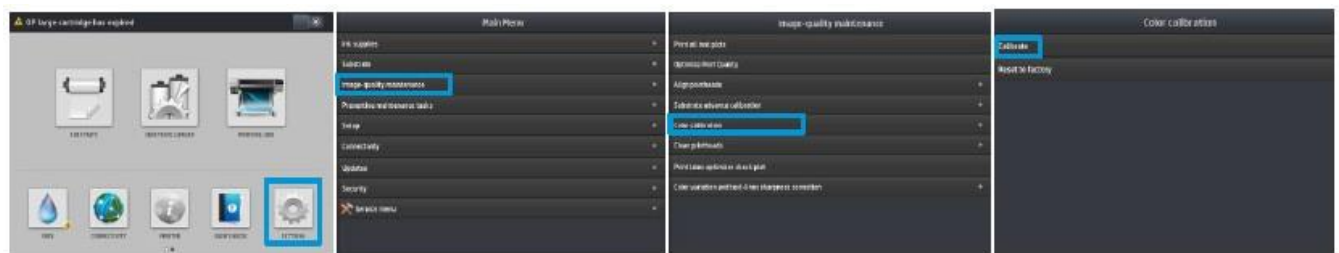

Figure 4. Screen navigation to perform color calibration.
- See Figure 4 for screen navigation to perform color calibration. Click: **Settings > Image Quality Maintenance > Color Calibration > Calibrate**.